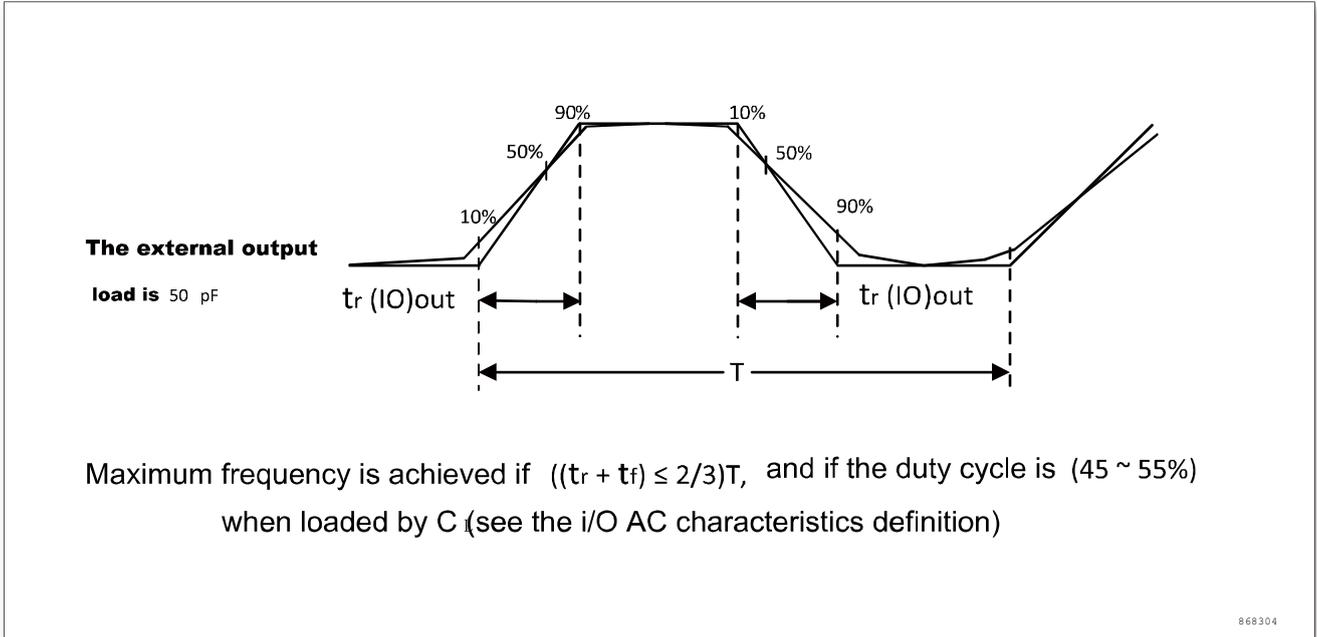

Figure 13. I/O AC characteristics
The definitions and values of the input and output AC characteristics are given in figure 13 and Table 28, respectively.
2. The maximum frequency is defined in figure 13.